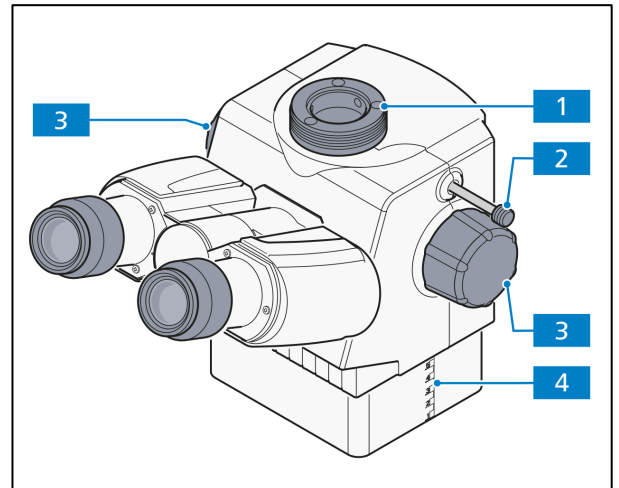
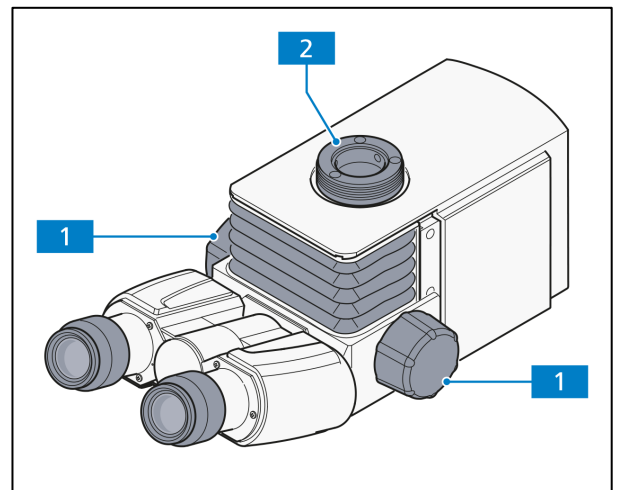

Fig. 2-9 Binocular ergo photo tube 20°/23 with vertical adjustment
Fig. 2-10 Binocular ergo photo tube 15°/23, telescopic with vertical adjustment
The ergo photo tubes are equipped with one camera port each (Fig. 2-9/1 and Fig. 2-10/2).
- Continuous vertical adjustment by means of the rotary knobs (Fig. 2-9/3 and Fig. 2-10/1)
- The adjustment range of the **ergo photo tube 20°/23** can be read off the vertical scale (Fig. 2-9/4).
- Push-pull rod (Fig. 2-9/2) pushed in: 100% to the eyepieces
- Push-pull rod (Fig. 2-9/2) pulled out: 100% to camera port
The **ergo photo tube 15°/23** (Fig. 2-10) is available only with an upright image and fixed scale (50:50).